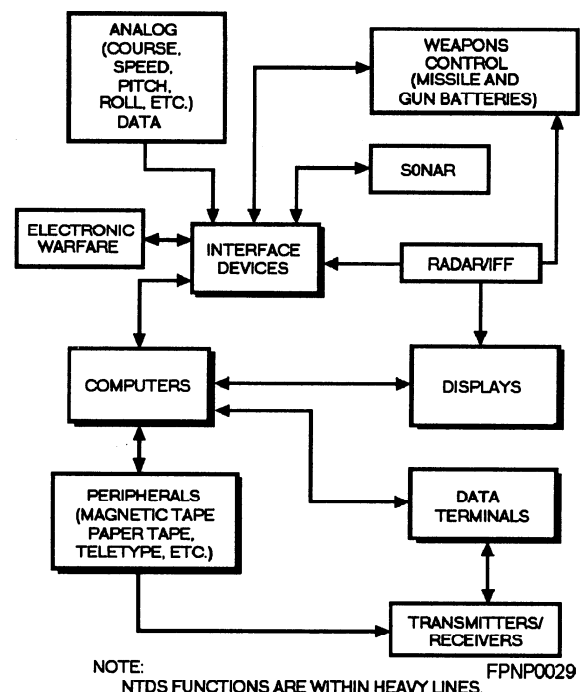

Figure 1-6.—Simplified block diagram of a tactical data system (CDS/NTDS).
The data these subsystems generate and feed back to the data processing subsystem is stored, processed, and distributed by the operational program. The computer is part of the data processing group and coordinates the operations within CDS/NTDS and makes the information available to other major subsystems within combat systems: radar/IFF, weapons (guns, missiles, and underwater), electronic warfare, and navigation. The CDS/NTDS is a real-time system. The type of computer used in a tactical data system is a mainframe such as the AN/UYK-7(V) or AN/UYK43(V) computer. The number of computers used in a tactical data system depends on the class of ship and its configuration/setup. Figure 1-6 is a portion